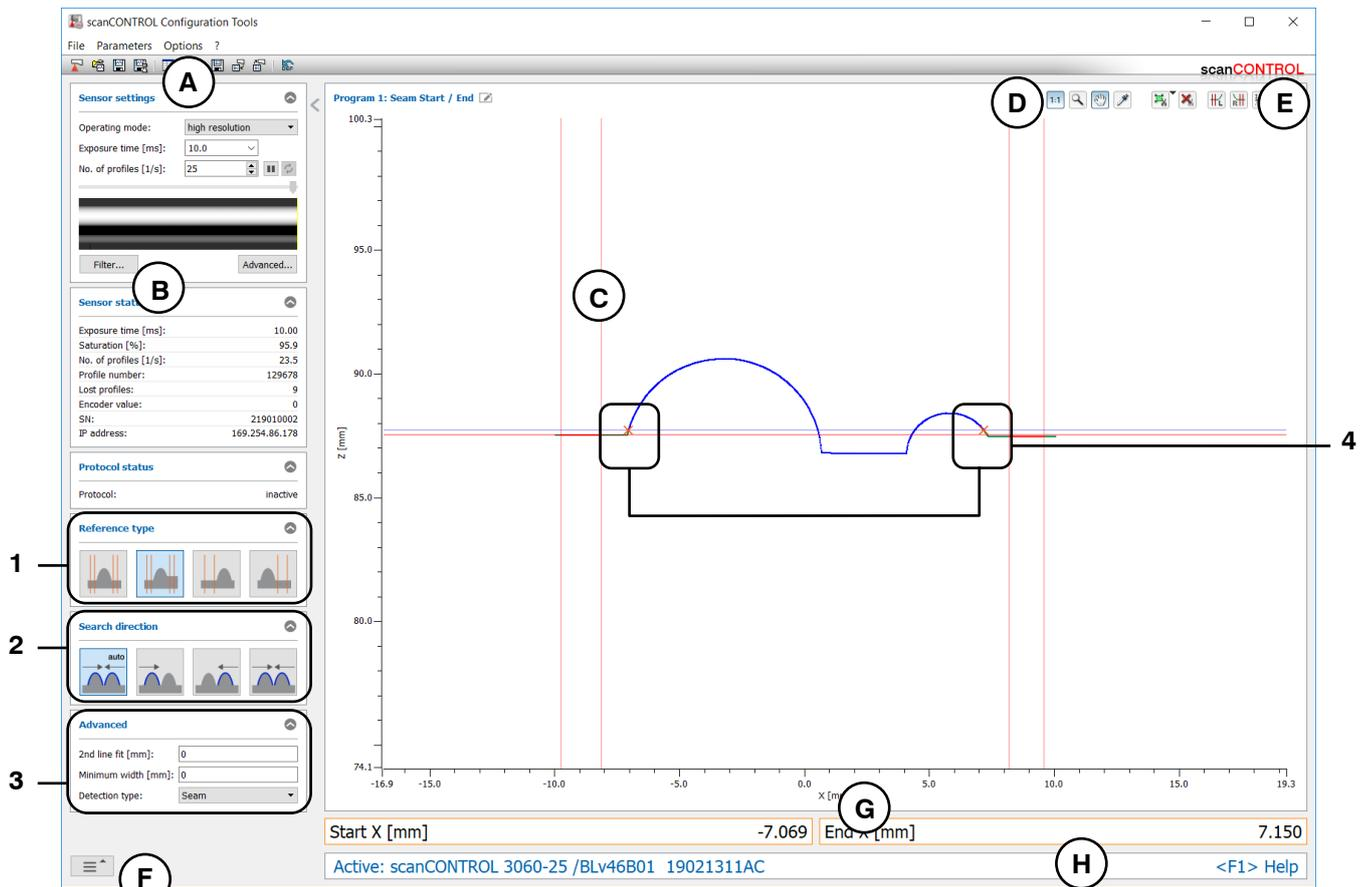

Fig. 4.27: "Seam Start/End" measuring program
- Define the type of heightening (see Fig. 4.27 and Chapter 3.13.1):